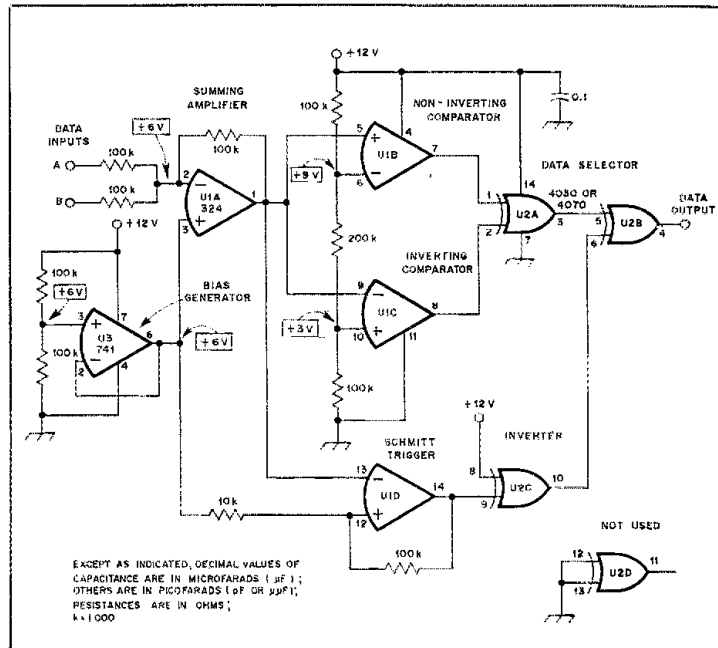

Fig. 1 — Schematic diagram of the diversity combiner for RTTY reception.
Fig. 1 — Spectral display of the Azden PCS-300. Vertical divisions are each 10 dB; horizontal divisions are each 100 MHz. Output power is approximately 3 watts at a frequency of 146 MHz. All spurious emissions are at least 62 dB below peak fundamental output. The fundamental has been reduced in amplitude approximately 35 dB by means of notch cavities; this prevents analyzer overload. The Azden PCS-300 complies with current FCC specifications for spectral purity.
See Fig. 1.
□ The circuit of Fig. 1 is useful for combining two (ideally) identical but independently demodulated data streams for display or further processing. Typical data inputs would be from envelope detectors, tone decoders or phase-locked loops, each responding only to one tone (mark or space). The data streams must be in phase. If they aren't, U2D can be used to invert one channel for wiring one input HIGH. As shown, the circuit accepts logic levels of +12 volts and ground. Other levels can be accommodated by scaling the input resistors.